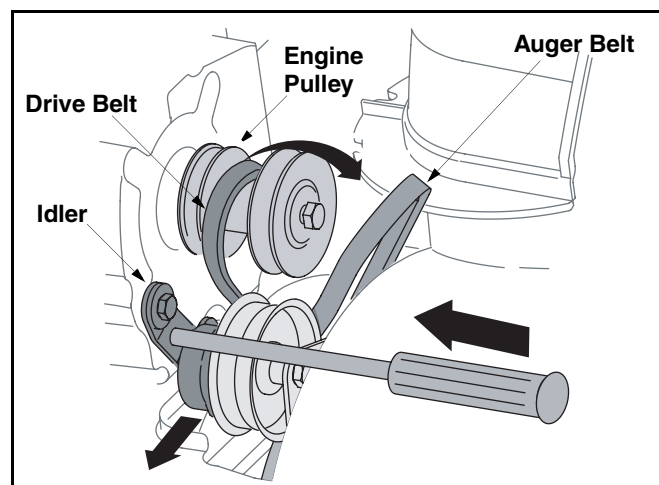

Figure 17
1. Push idler counter-clockwise and insert a Phillips head screwdriver in the hole on the idler as shown in Figure 17. This will release tension on drive belt.
2. Pull drive belt out and away from the engine pulley to remove. See Figure 17.